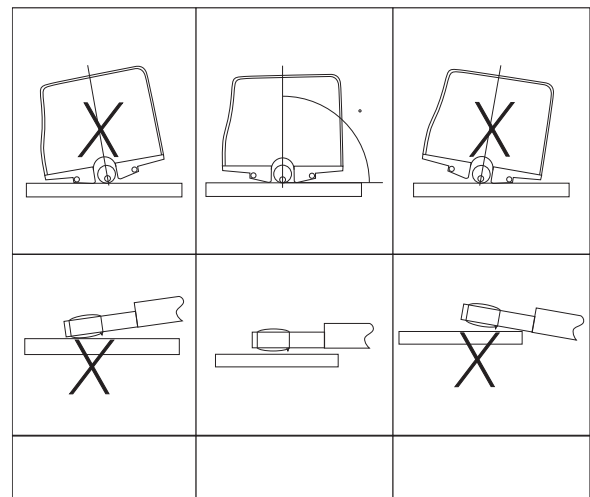
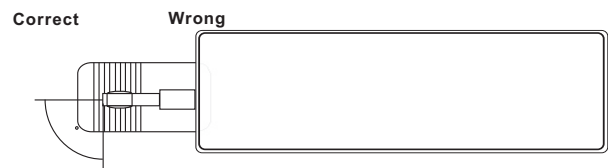

Fig.4-1
Fig.4-2
I. Refer to Figure 4-1 and Figure 4-2 to place the instrument correctly, stably and reliably on the surface to be measured.
J. Refer to Figure 4-2, the sliding trail of the sensor must be vertical to the direction of process line of the measured surface.